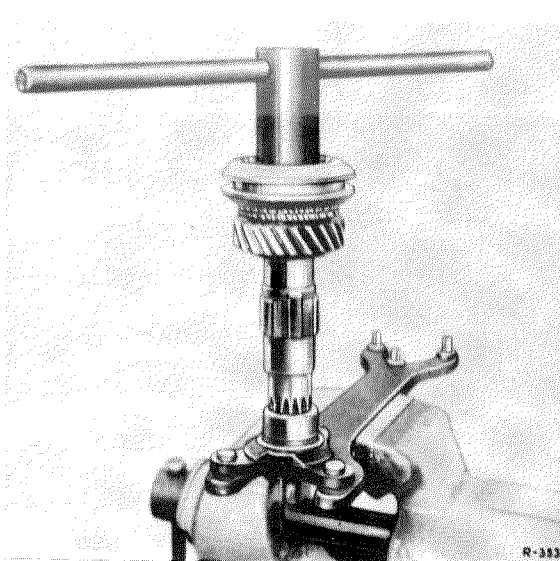

Fig. 26 — 4/49
90. Install the locking plate and the grooved nut and firmly tighten the nut using Wrench 120 589 04 07 (Fig. 26 — 4/49). Do not yet lock the grooved nut.